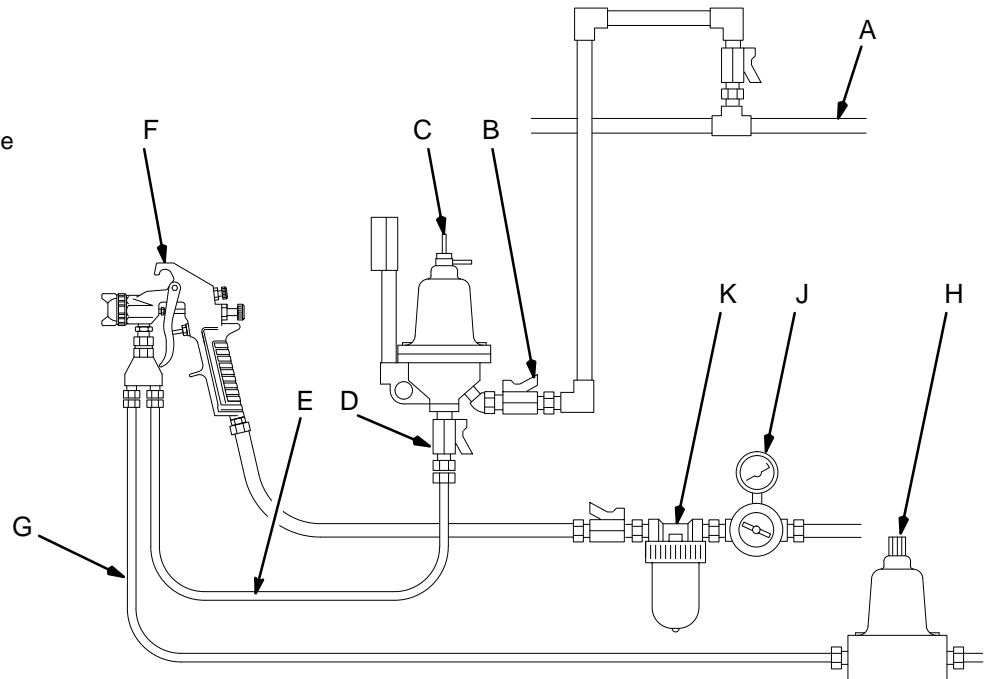

Fig 1
1. Determine the placement of the fluid regulator in your system. Install it as close as possible to the spray gun/dispersing valve (F) for easy operator control. See Fig 1.
2. Install a ball valve at the inlet (B) and outlet (D) of the regulator (C) to isolate the regulator to remove it for cleaning.
2. Start the pump and open the fluid ball valve (B) to admit fluid to the regulator inlet. See Fig 1.
2. Shut off the supply pump and relieve fluid pressure in the system by opening the back pressure valve (H) or other bypass valve. See Fig 1.